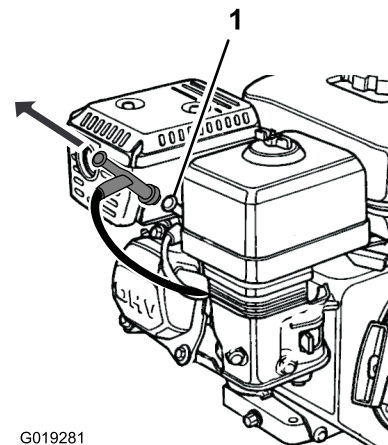

Figure 38
6. Disconnect the spark-plug wire; refer to Figure 38.
Pull the spark-plug wire off the terminal of the spark plug (Figure 38).